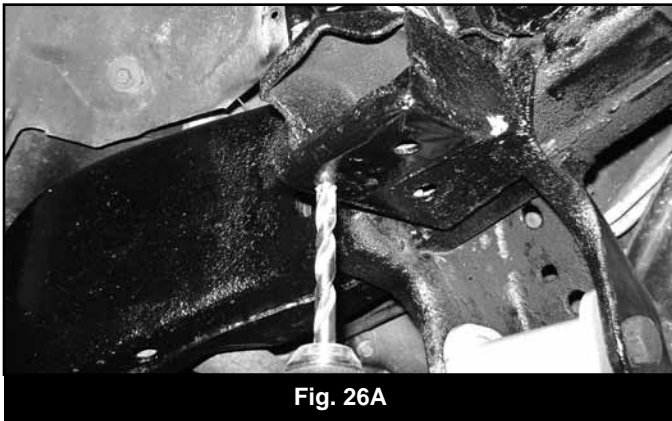
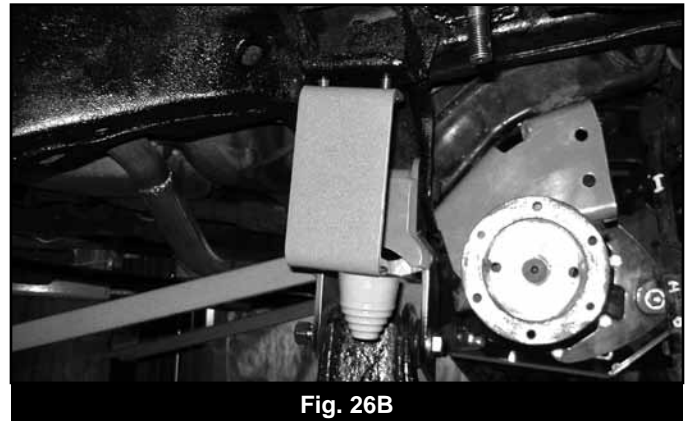

Fig. 26A
Fig. 26B
49. Locate the original bump stop mounting holes on the frame. Drill the smaller back hole out to 3/8" (Fig 26A). Install the provided bump stop brackets with 3/8" x 1-1/4" bolts, nuts and washers (BP 583). Tighten hardware to 30 ft-lbs. Install the new polyurethane bumpstop into the front hole of the bracket with the provided 3/8" lock washer and non-locking nut. Tighten securely. (Fig 26B)